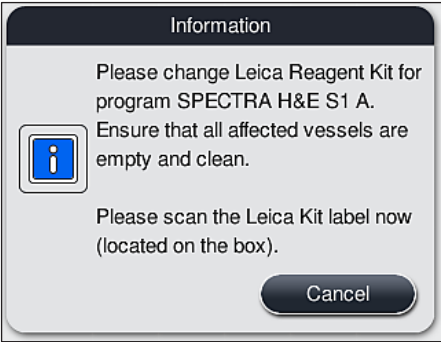

Fig. 57
1. When prompted by an information message (→ "Fig. 57") on the screen, hold the carton's packaging label in front of the RFID sensor on the front of the instrument (→ "Fig. 58-1") to scan it.
- Scanning the Leica reagent kit can only be canceled by using the **Cancel** button in the information message shown in (→ "Fig. 57") and before starting scanning the package label without the Leica reagent kit expiring.